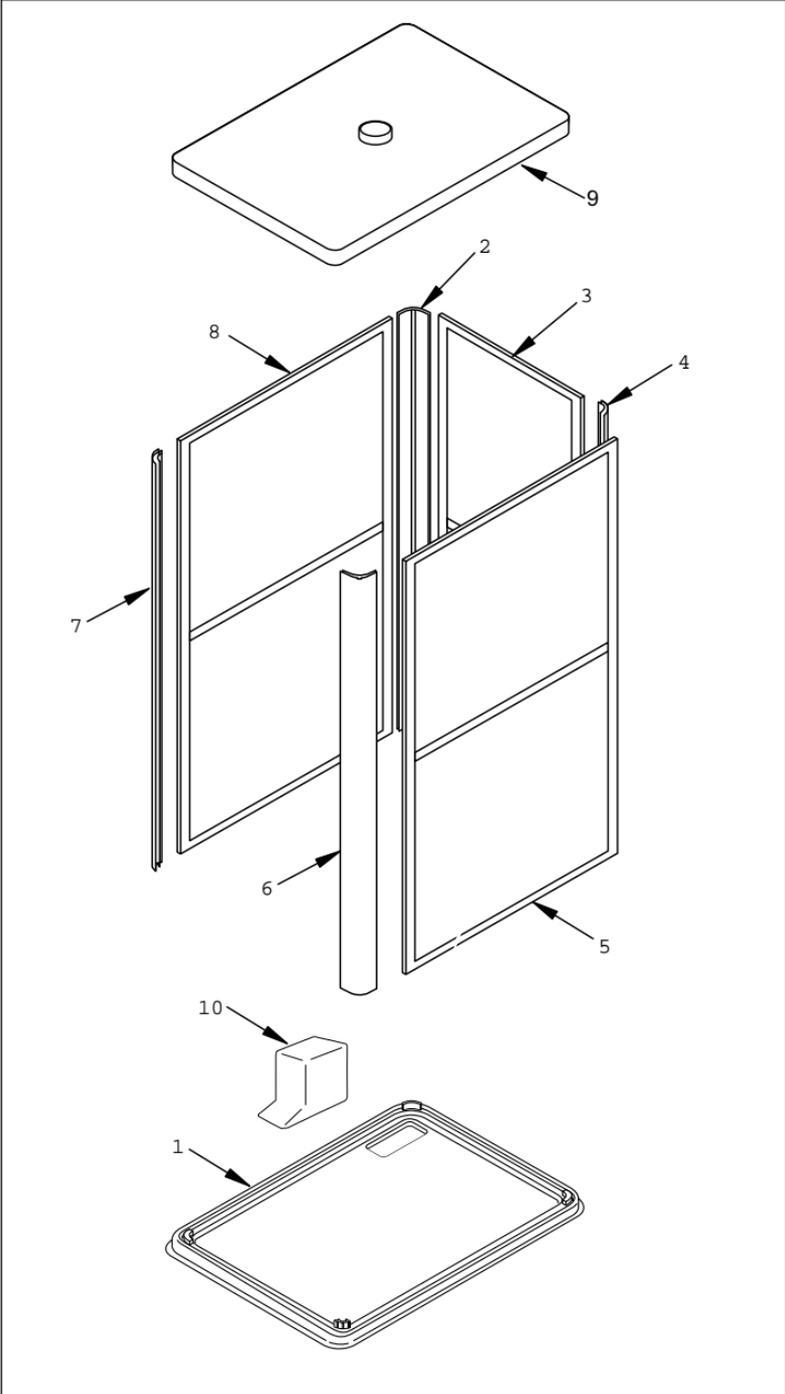

Fig 3
2. Using battens and timber create a sub floor that is level with the top of the joists, as Fig 3.
Installation Details (use Fig 3 with instructions)